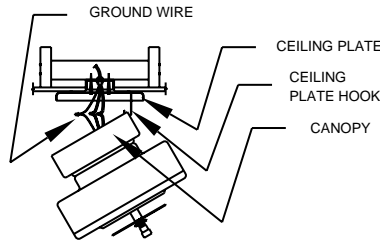

FIGURE 5A.
C. BEING CAREFUL NOT TO SCRATCH THE CANOPY FINISH, HANG THE FAN FROM THE HOOK IN THE CEILING PLATE USING ONE OF THE (3) SLOTS IN THE CANOPY. SEE FIGURE 5A.
B. BEING CAREFUL NOT TO SCRATCH THE CANOPY FINISH, HANG THE FAN FROM THE HOOK IN THE CEILING PLATE USING ONE OF THE (3) SLOTS IN THE CANOPY. SEE FIGURE 5A.